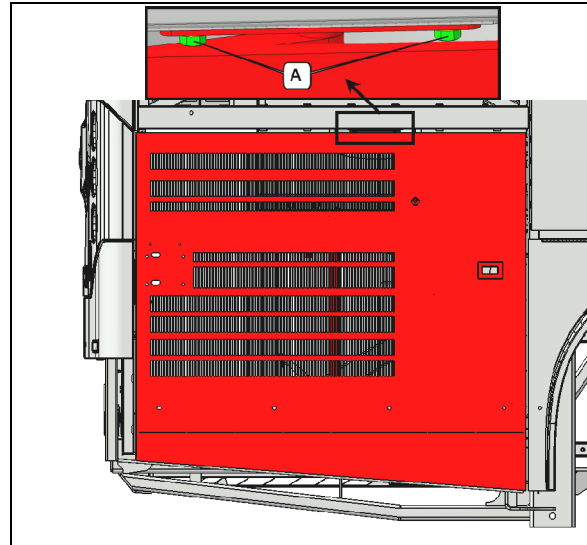

FIGURE 53
2. Make sure bolts A are tight (FIGURE 53).